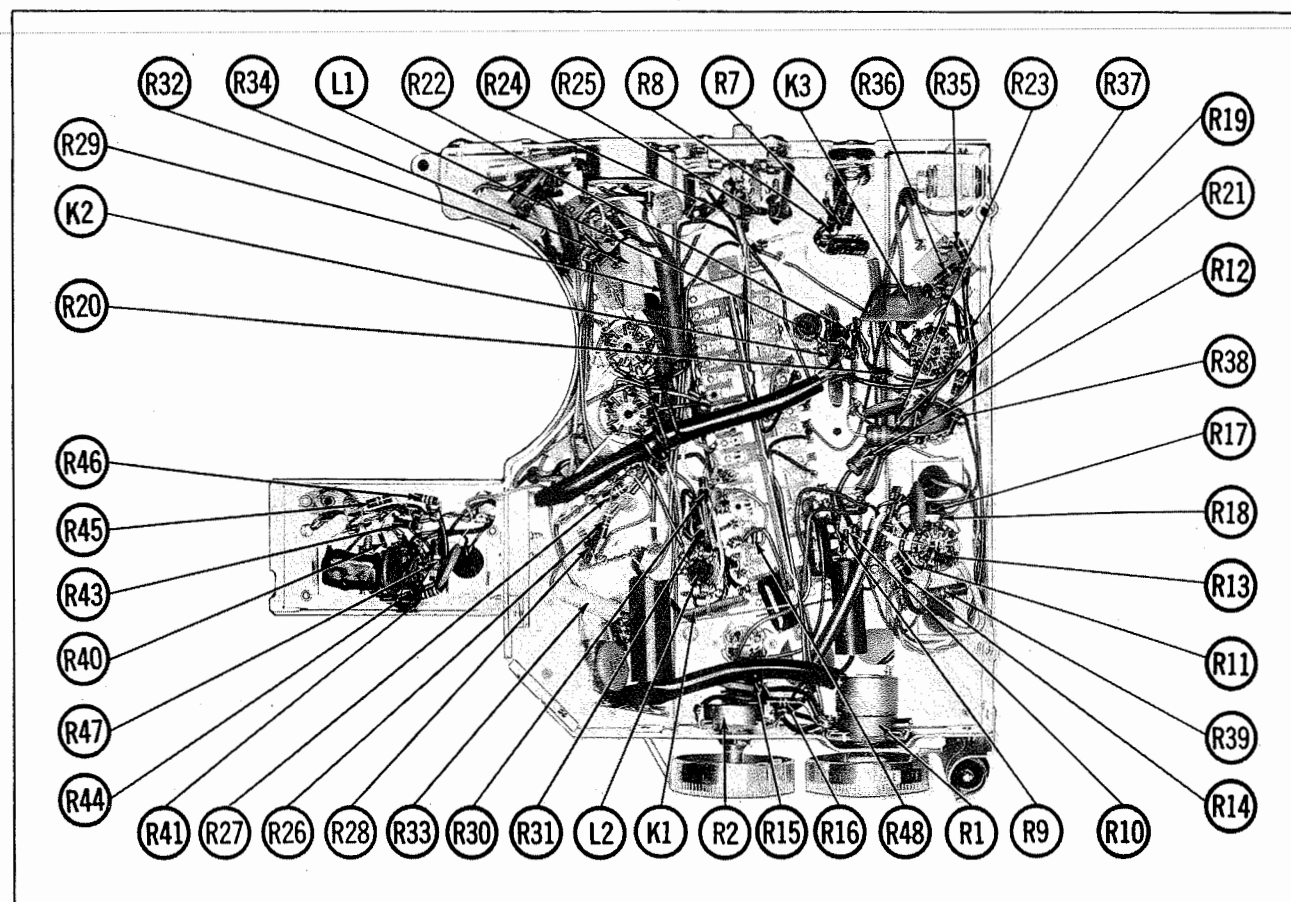

Fig. 13. Bottom View of Amplifier Chassis-Resistor & Inductor Identification
6. Adjust bias/erase oscillator coil (L2) core for a reading on the VTVM of 40 VAC (Model T-1515-4) or 50 VAC (Models T-1500, TS-1520 and T-1700). See Fig. 13 for location of adjustment.